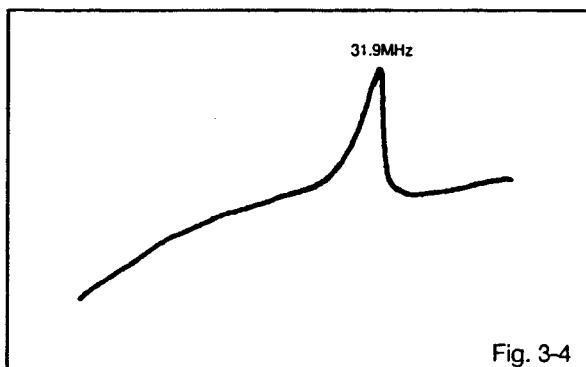

Fig. 3-4
3. Adjust **L6013** until the waveform marker (31.9MHz) becomes as shown in **Fig. 3-4**.